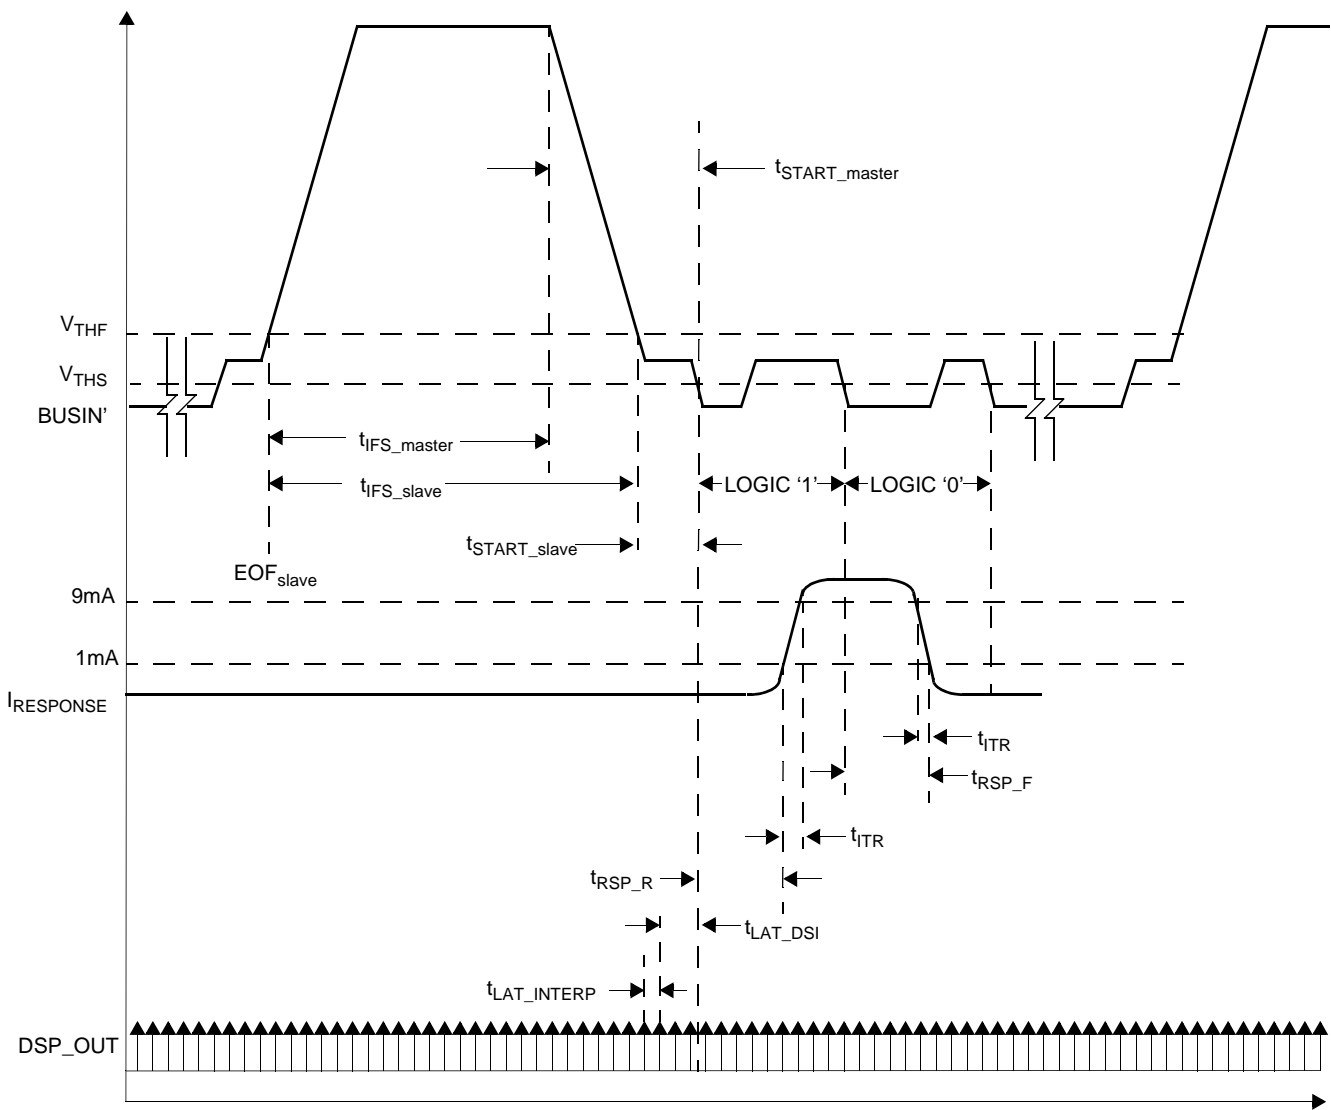

Figure 8. DSI Bus Inter-frame Timing
| 96  | Inter-frame Separation Time (See Figure 8)Following Read Write NVM CommandFollowing InitializationFollowing other DSI bus commands  | $t_{IFS}$            | 12            | —                 | —                 | ms                      | (7) |